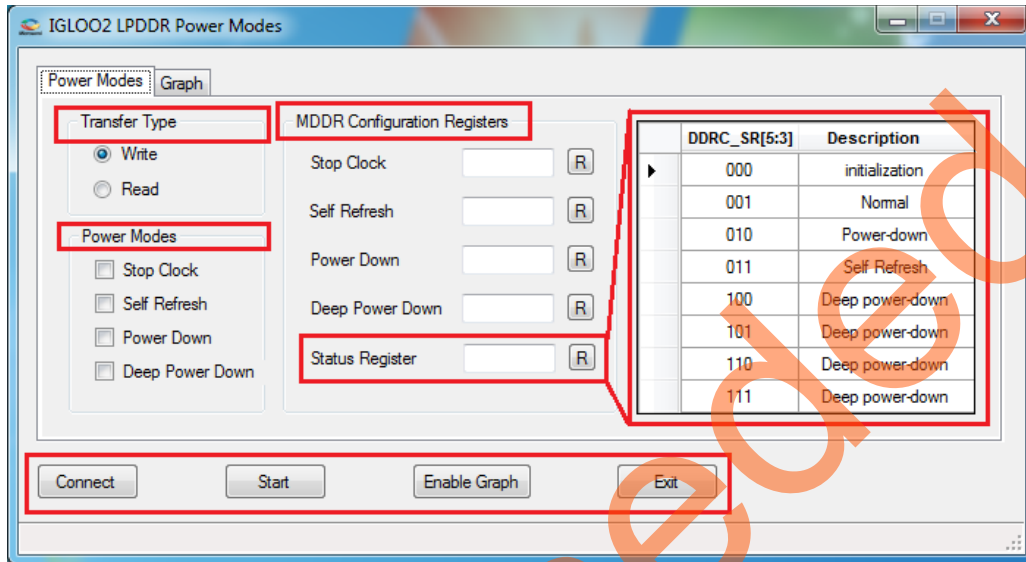

Figure 16 • IGLOO2 LPDDR Power Modes
The example design has a Windows GUI and IGL2_LPDDR_LP.exe that run on the host PC to communicate with the IGLOO2 Evaluation Kit board. The UART protocol is used as a communication protocol between the host PC and IGLOO2 Evaluation Kit board. Figure 16 shows the initial screen of the GUI.
- Click the **Power Modes** tab. The **Power Modes** window is displayed as shown in Figure 16.
- Click **R** to read back the content of **MDDR Configuration Registers**. The **Status Register** displays the current operational mode on the right pane of the GUI as shown in Figure 16.